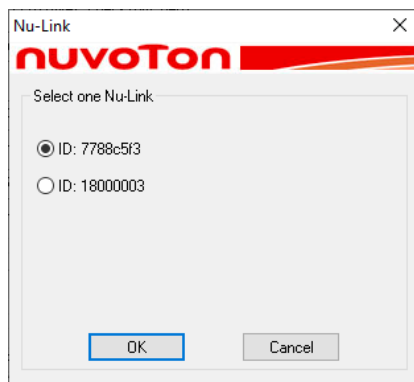

Figure 5.2-3 Select One Nu-Link2-Pro
- (4) And then click the Connect button. Go to (5) if more than one Nu-Link2-Pro are connected with the host. Go to (6) if only one Nu-Link2-Pro is connected with the host.
- (5) If two Nu-Link Debugger and Programmers have been connected with the computer, a message appears and asks to select one from the two adapters. Clicking **OK** will connect the selected adapter with the host, as shown in Figure 5.2-3. When a Nu-Link2-Pro is selected for connection, the Status LED starts blinking.